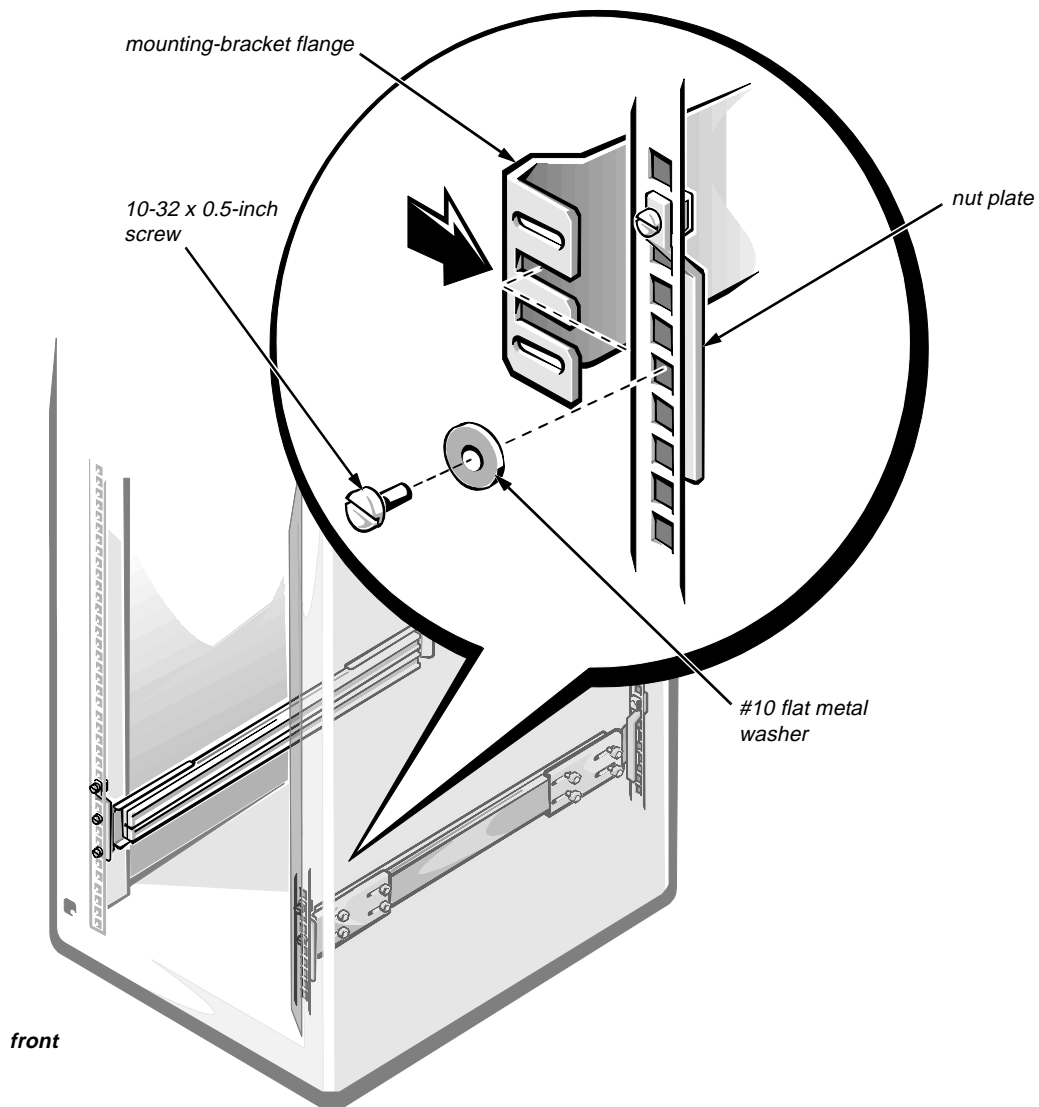

Figure 2-7. Adjusting the Length of the Slide Assemblies
- 2. Using a 3/8-inch nut driver and a flat-blade screwdriver, slightly loosen the four nuts that hold the back slide-mounting bracket to the exterior slide, and remove the temporary spacers (see Figure 2-7).**
- 3. Insert the slide assembly in the rack, and adjust the length (see Figure 2-7) as follows.**
- a. Insert the slide's mounting-bracket flanges between the nut plates and the rack's vertical rails as shown in Figure 2-7.
- b. To hold the slide assembly in place while you make minor adjustments, install a single 10-32 x 0.5-inch screw and a #10 flat metal washer in each end of the slide assembly (see Figure 2-7).